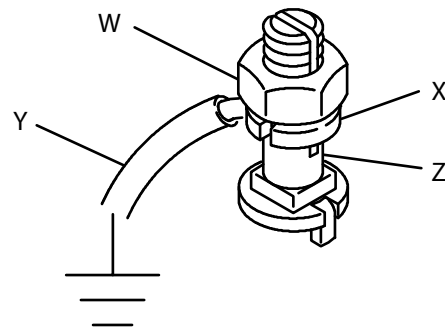

Fig. 2
*All Other Pumps:* use a ground wire and clamp. See Fig. 2. Loosen the grounding lug locknut (W) and washer (X). Insert one end of a 1.5 mm2 (12 ga) minimum ground wire (Y) into the slot in lug (Z) and tighten the locknut securely. Connect the other end of the wire to a true earth ground. Order Part No. 237569 Ground Wire and Clamp.